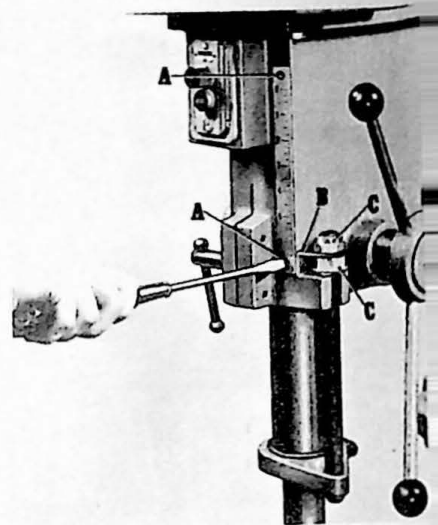

Figure 7
1. When setting drill depth, position pointer (B, fig. 7) at depth required and tighten nuts (C).
2. Loosen screws (A) and with quill at maximum travel, position scale so pointer is at  $6\frac{3}{4}$ ", then tighten screws.